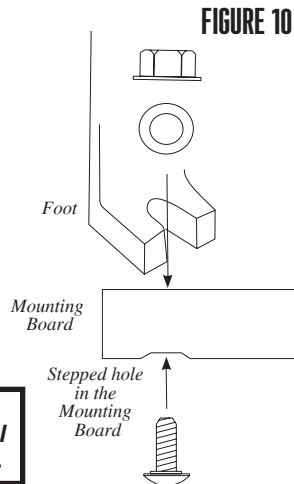

FIGURE 10
3. Secure the Mounting Board to the Feet with the Carriage Bolts, Flat Washers and Hex Flange Nuts (**FIGURE 10**). Use a 10-mm wrench or an adjustable wrench to tighten the Hex Flange Nuts.